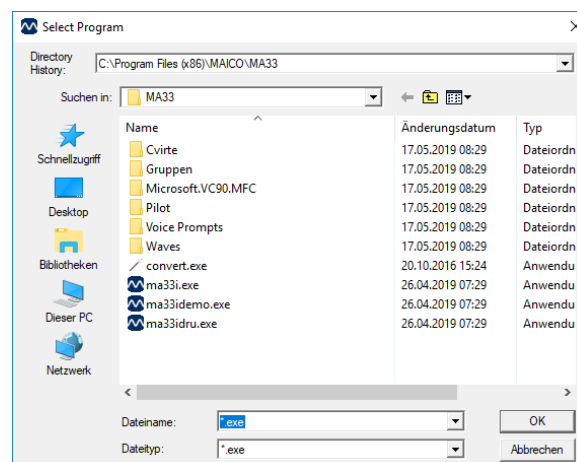

Figure 23
3. The following window will appear. Open the **MA 33** folder and select the **MA33i.exe** file for the program that is being added to the database. Click **OK** (Figure 23).